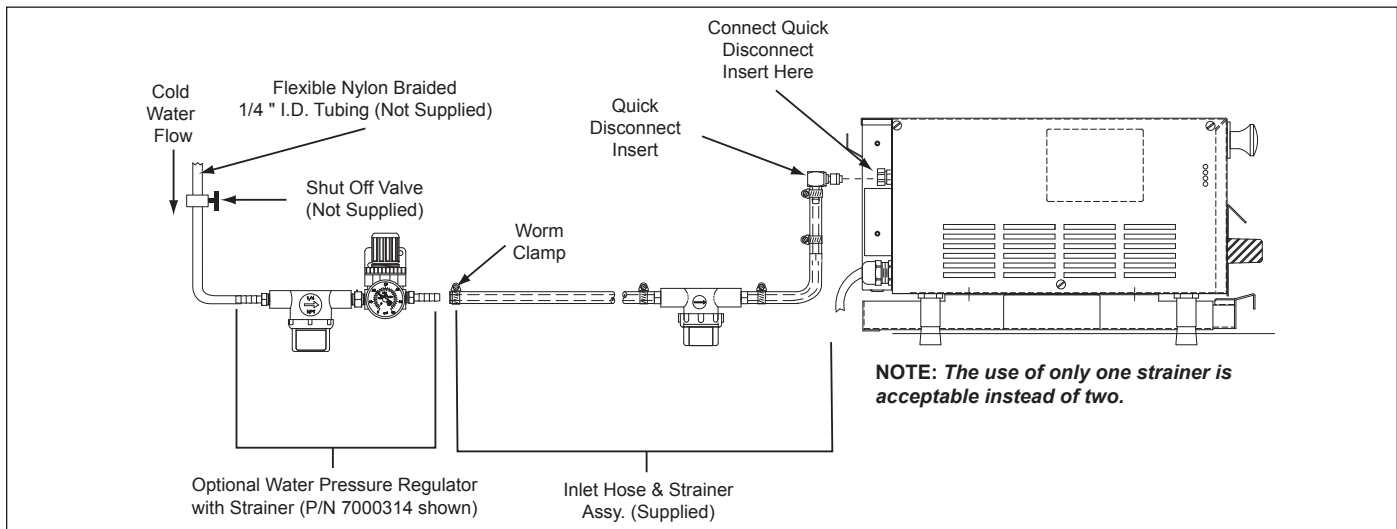

Figure 4. Connecting Water Supply
These units require a direct cold water hookup. A Water Inlet Hose and Strainer Assembly (Figure 4) is supplied.
- Turn off the water valve (not supplied) that supplies water to the unit (Figure 4).
- Connect the 1/4" (6.5 mm) I.D. Flexible Tubing to the outlet side of the Water Pressure Regulator and secure using the Worm Clamp (Figure 4).
NOTE: **A Water Pressure Regulator must first be installed (Figure 4). Failure to do so will result in poor steaming and possible flooding. For a single steamer, use Water Pressure Regulator P/N 7000314. For two adjacent steamers, use Water Pressure Regulator P/N 7000235. For Mfg. No. 9100933 use only P/N 0012001.**
- Push the Quick Disconnect Insert into the fitting at the rear of the unit until it clicks (Figure 4).